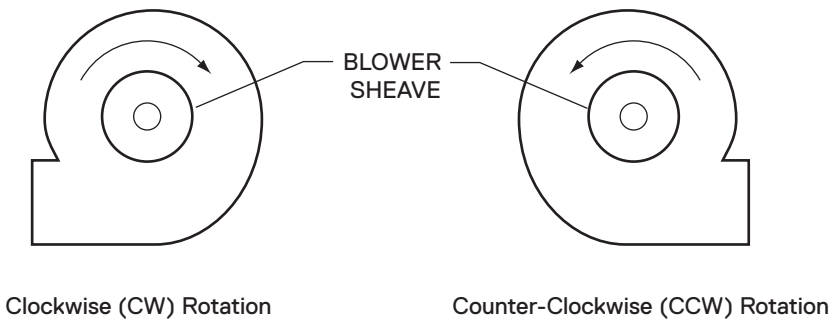

Figure 2
- 15 ☐ ☐ ☐ Apply power to the blower motor momentarily (bump start) to check for proper blower wheel rotation. If the blower is rotating in the wrong direction, reconnect the motor leads per the motor manufacturer's wiring schematic. **Blower rotation is determined by viewing the blower from the motor side of the blower, NOT from the inlet side.** After reconnecting the leads, repeat this step. See Figure 2.